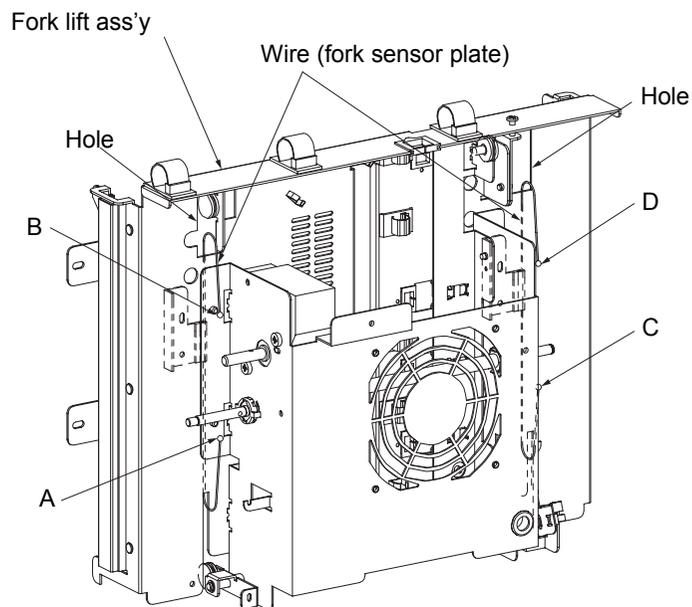

Fig. 6-33. Installation of the wire (fork sensor plate) U/L
2. Put the wire (fork sensor plate) through the hole of the fork lift ass'y as shown in Fig. 6-33.